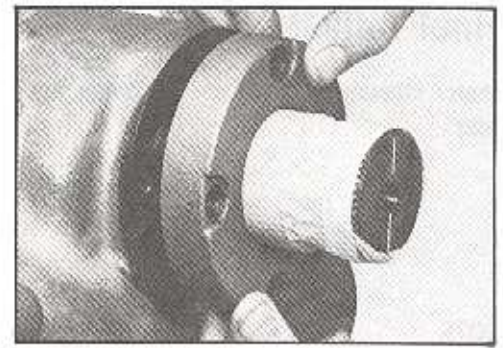
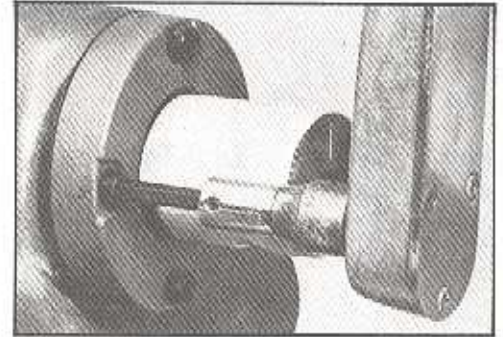

Figure 173
Figure 174
62. Pack seal area of sector shaft (46) with clean high temperature industrial grease per Ross specification D45231, Mobil temp 1 or 2 or equivalent. Install the trunnion cover (52). SEE FIGURE 173. Install the four trunnion cover screws (52A) and torque them to 13-23 ft. lbs. (18-31 N m) if dry or 11-16 ft. lbs. (15-22 N m) if lubricated. SEE FIGURE 174.